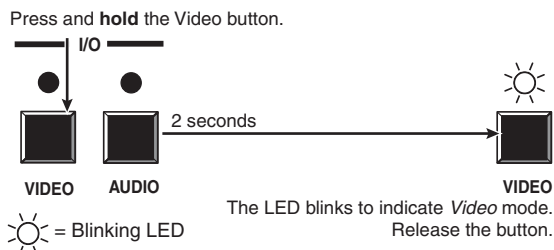

Figure 3-47 — Video mode selection
2. To enter *Video* mode, simultaneously press and **hold** the Video button (figure 3-47).